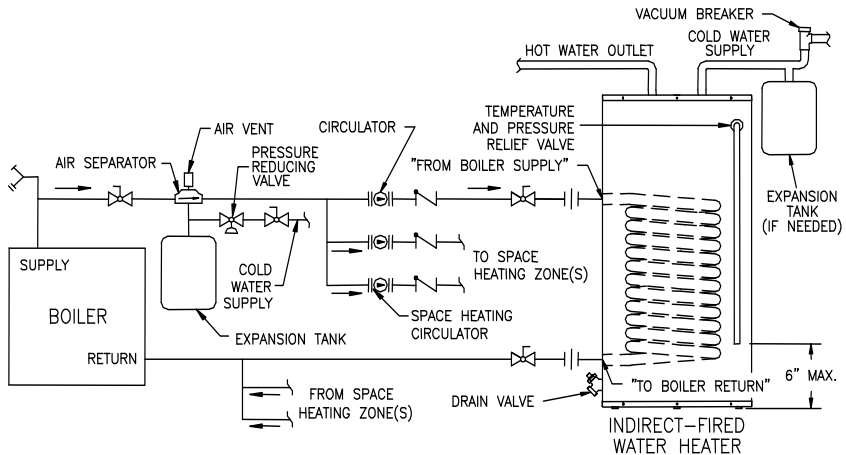

Figure 3 - Water Boiler Piping with Circulators
- For a space heating system that utilizes CIRCULATORS, refer to Figure 3. The indirect-fired water heater connection labeled “FROM BOILER SUPPLY” should be piped to the boiler supply piping. Mount the circulator making sure the flow arrow points toward the water heater. The use of shut-off valves and unions are recommended for future service convenience. The use of an air separator and vent is recommended to eliminate air in the system. Pipe and fittings between the boiler and indirect-fired water heater must be $\frac{3}{4}$ ” diameter or larger.